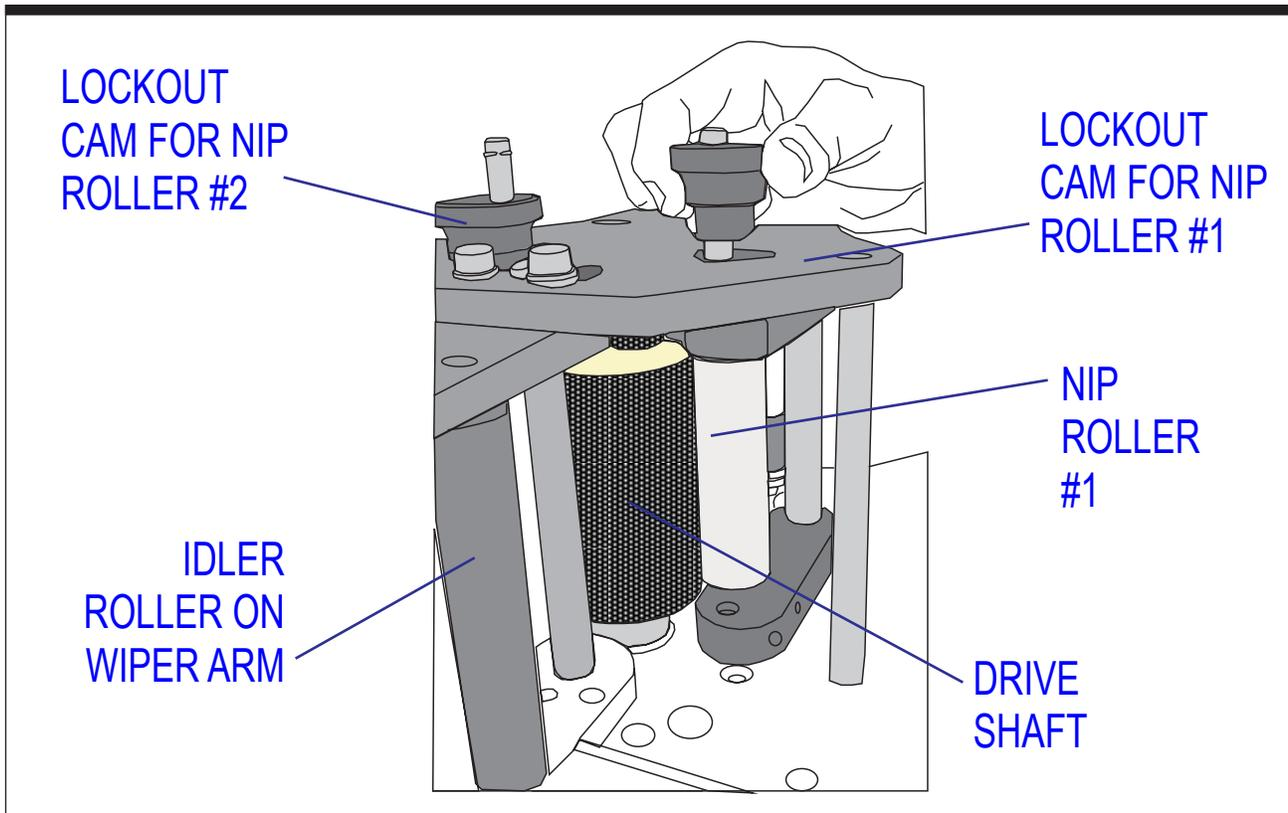

Figure 4-3. Lockout Knobs for Nip Rollers
Step 4. The Nip Roller. To thread the stock between the drive roller and the nip roller, you must first release the tension on the nip rollers. Lift up on the lockout knob on top of the face plate cover (see Figure 4-3) and rotate them 180°. Move each cam outward until the cams' locks drop back down into the slots. This locks the nip rollers away from the drive shaft. Thread the label stock between the nip roller (position #5) and the drive shaft.
- Step 8. Re-engage the Nip Roller Lockout Knobs.** Re-engage the nip roller lockout knobs by turning the knobs 180°, lifting up on the knobs and pulling them center towards the drive shaft (this should be tight, and maintain a firm grip on the knobs). Once the nip rollers are in place, push the knobs down into the openings on the front cover (see Figure 4-3).